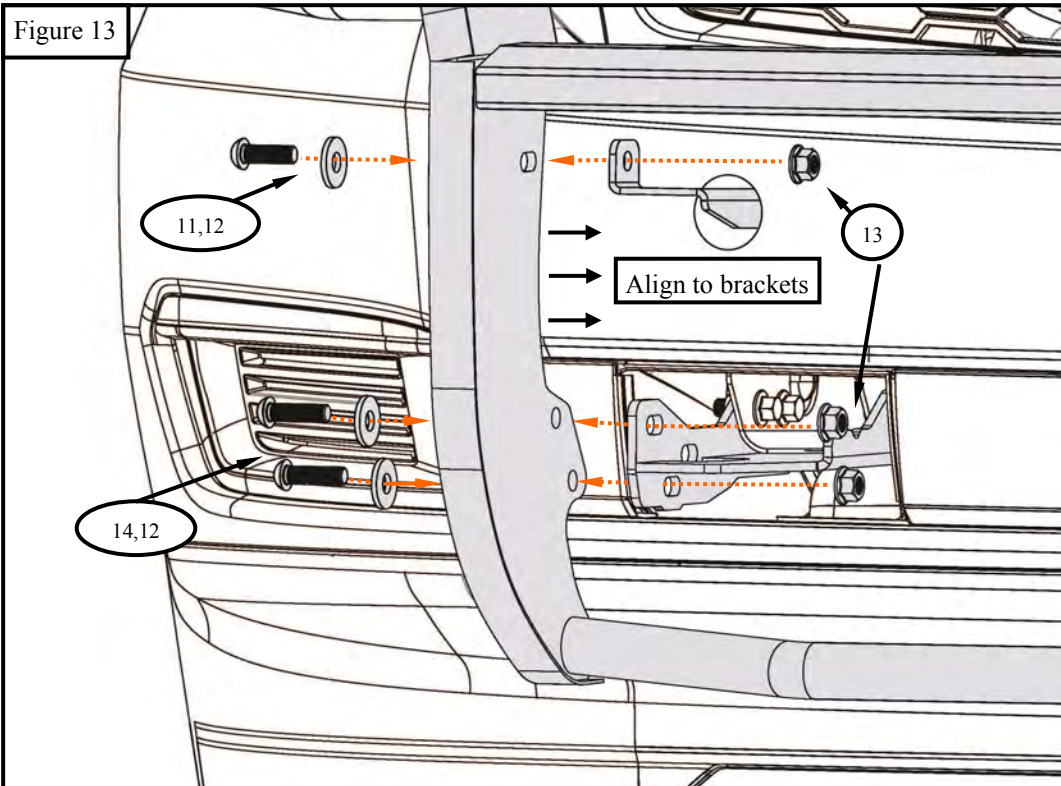

Figure 13
- Locate the Grille Guard (item 1 for Sportsman) or (item 2 for HDX) and align the Grille Guard with both the Bottom and Upper Mounting Brackets that were previously installed.
- Attach the Grille Guard to the Bottom Brackets using (4) M12 Hex Socket Button Head Screws (item 14), (4) M12 Cupped Washers (item 12) and (4) M12 Serrated Flange Nuts (item 13). (Figure13)
- Attach the Grille Guard to Upper Brackets using (2) M12 Hex Socket Button Head Screws (item 11), (2) M12 Cupped Washers (item 12) and (2) M12 Serrated Flange Nuts (item 13). (Figure 13)